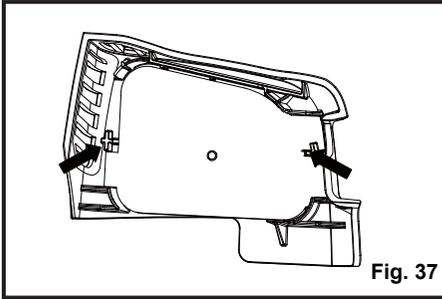

Fig. 37
- Place the air filter back, ensuring that it properly seated onto the air filter cover. Installing the filter correctly will decrease the chances of engine wear caused by dirt entering the engine (Fig. 37).